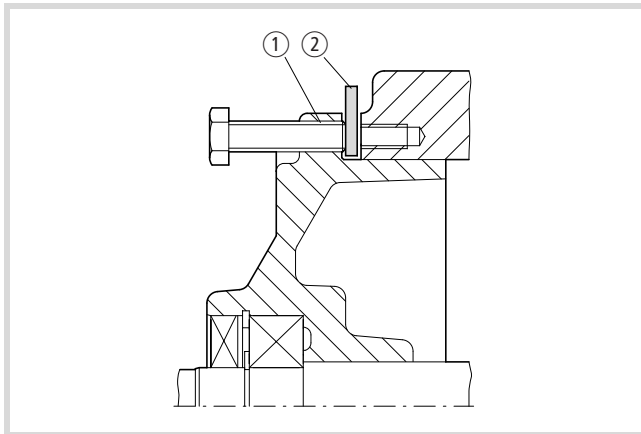

Figure 7: Forcing the end shield from the housing spigot recess
To protect the threaded holes, insert a metal strip (→ item ② in Fig. 7) under the forcing-off screws as soon as the end shield has separated from the motor housing. Both DE roller bearing (1.10) and NDE roller bearing (2.09) are damaged in the removal process on FS 80 to 225, and must be replaced with new bearings.
- ▶ Use the forcing-off thread holes ① in the holes of the end shield (normally one thread size larger than the fastening thread) to force the end shield and rotor from the housing spigot recess (→ Fig. 7).
- ▶ Use the forcing-off thread holes in the end shield to force the NDE end shield (2.02) from the housing spigot recess (→ Fig. 7).